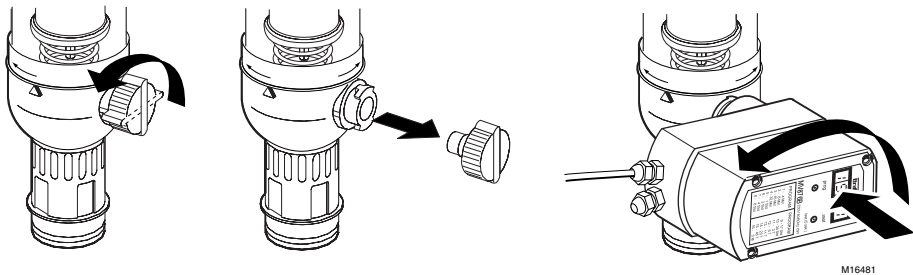

Fig. 5. Installing the F76S.
3. Install pressure gauge in the F76S center port (see Fig. 5).
3. Install the MV876. See Fig. 5 and 6.